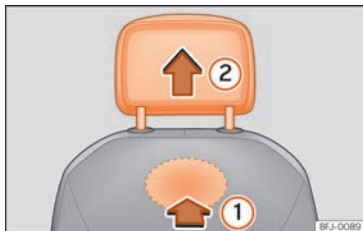

Fig. 144 Front head restraint: removal.
- To unlock it, look for the rabbit on the bottom of the backrest and press in the direction of the arrow »» Fig. 144 ①.
- Remove the head restraint in the direction of the arrow ②.